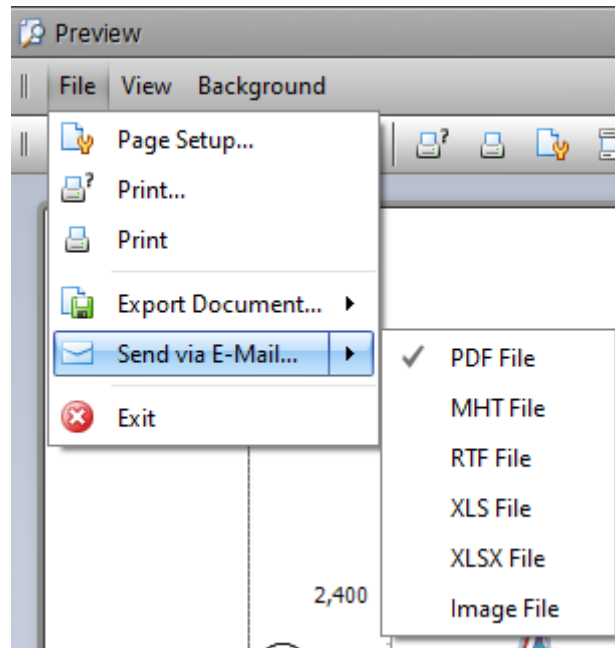

Figure 4-43: File format options
3. Hover your cursor over **Send via E-mail**. The file format window appears (Figure 4-43).